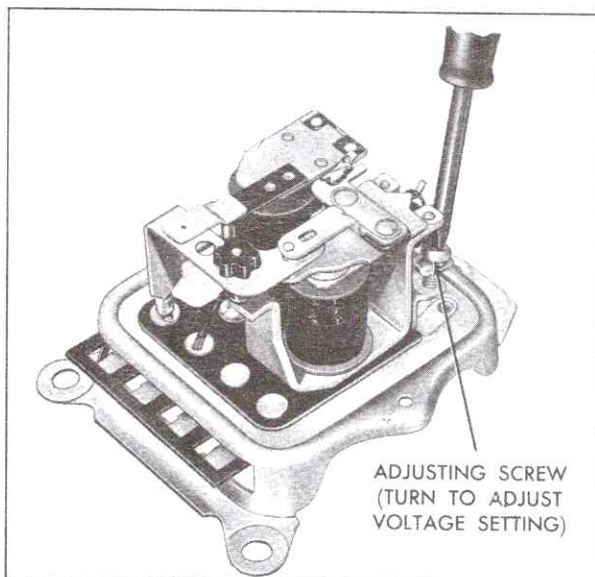

Fig. 6-44 Adjusting Voltage Setting
3. Turn adjusting screw as shown in Fig. 6-44.